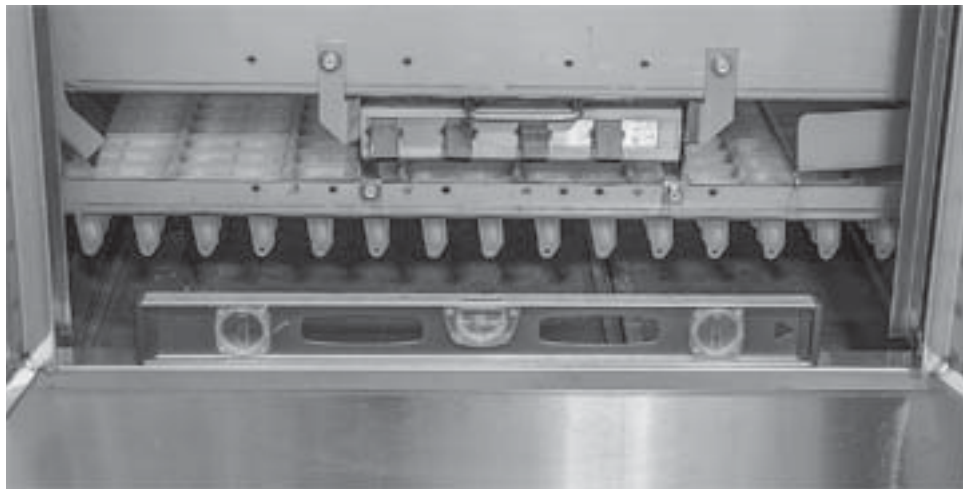
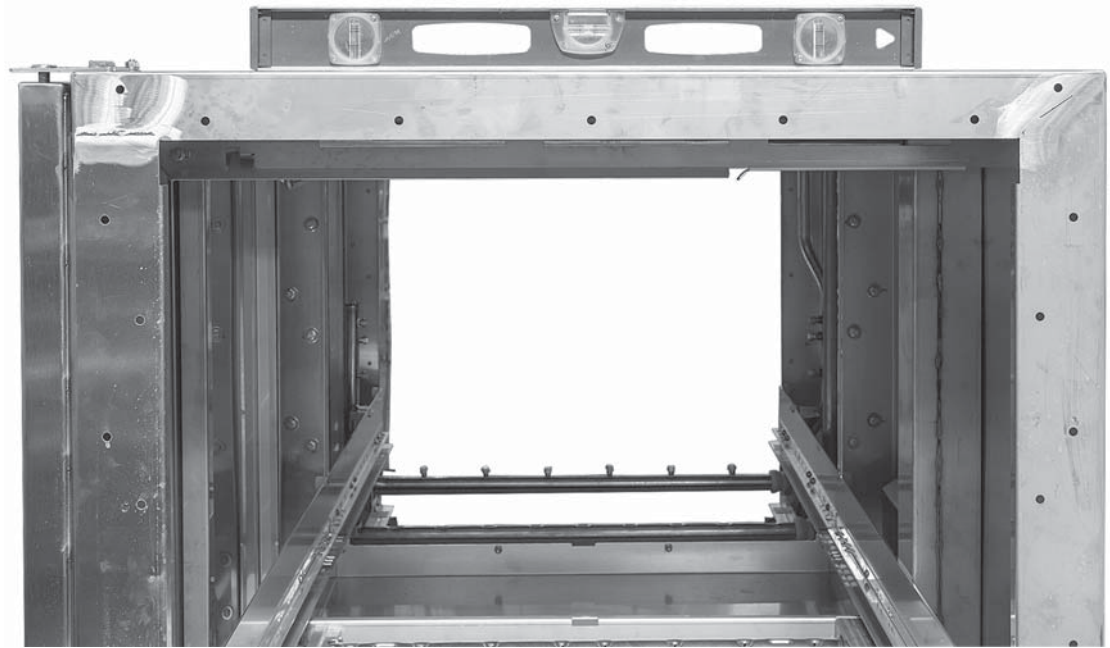

Fig. 2
Fig. 3
- Level the center section along its length by opening the doors and placing a level between the doors along the tank support rail (Fig. 2). Do not check level on top of doors. Adjust the feet in or out as required to level.
- Continue to level the center section front to back by removing the top panels and placing level across the top of the chambers on both ends of center section (Fig. 3).
The tank support rails should be level across the entire length of the machine (Fig. 2). Sections to be mated should be level front to back (Fig. 3).